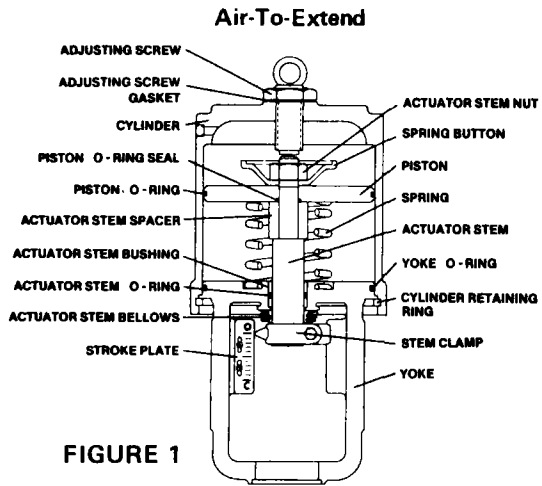

FIGURE 1
1. The actuator should be assembled with the spacer and spring under the piston for air-to-extend with the spring button stored on top of the piston, under the actuator stem nut, figure 1. The spacer and spring should be over the piston on an air-to-retract configuration. The spring button retains and guides the spring from the adjusting screw. See figure 2.